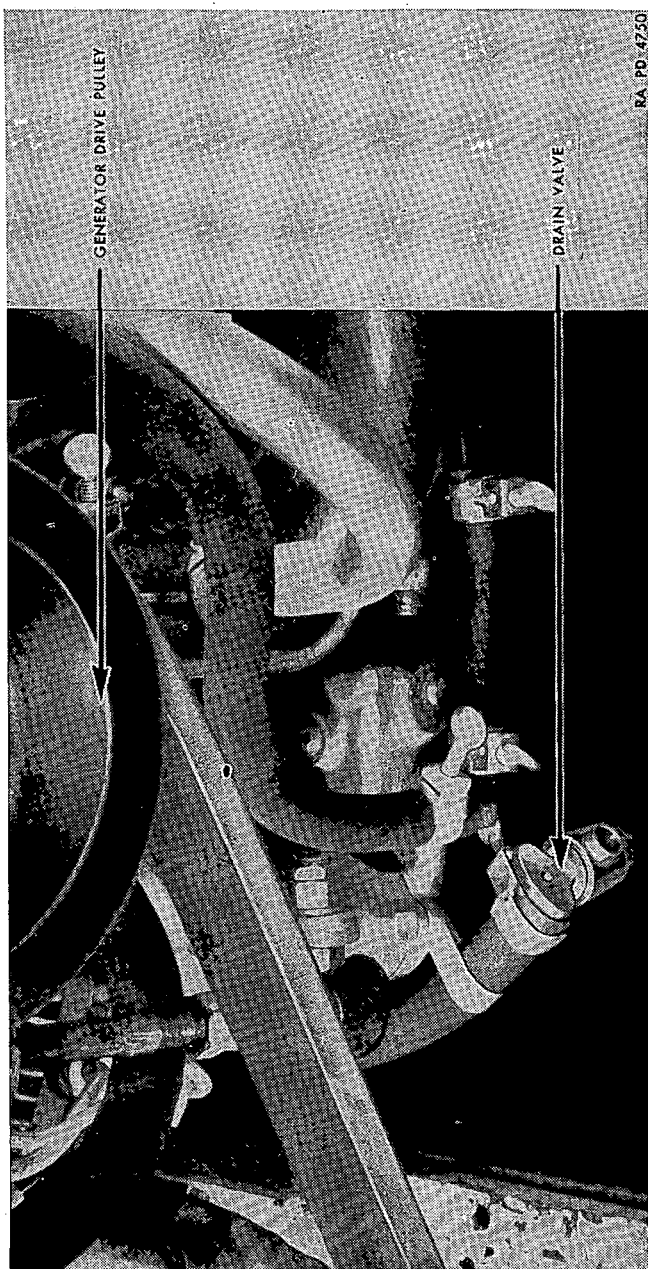

FIGURE 10.—Inlet manifold drain valve for Guiberson T-1020, series 4.
(1) Normal oil pressure is 60 to 90 pounds.
(2) Normal oil temperature is 100° F. to 170° F.
b. If the drain cock on the inlet manifold is open, close it. If the cock is closed, open it and permit all of the oil in the inlet manifold to drain out before closing it (see fig. 10).
c. Important points to remember.—(1) Engine must be operated for at least 30 minutes when started following a shut-down on diluted oil.
(2) Engine must be shut-down *immediately* after dilution.
(3) Dilution time greater than 210 seconds must *not* be used.
b. If an unavoidable stop occurs during high speed operation, place the throttle lever on decompression, open drain cock (fig. 10), and turn the engine by hand through two or three revolutions before attempting to start the engine. This is to prevent damaging the engine due to an oversupply of oil between piston and cylinder head in cylinders five and six.